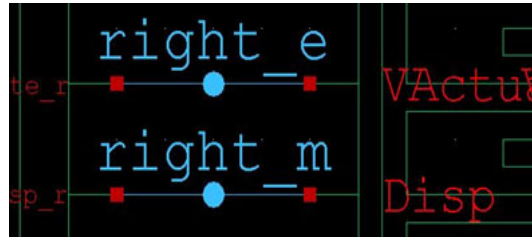

Figure 6: right_m and right_e nodes
- Edit the node labels orientations to look some what like the layout in Figure 6.